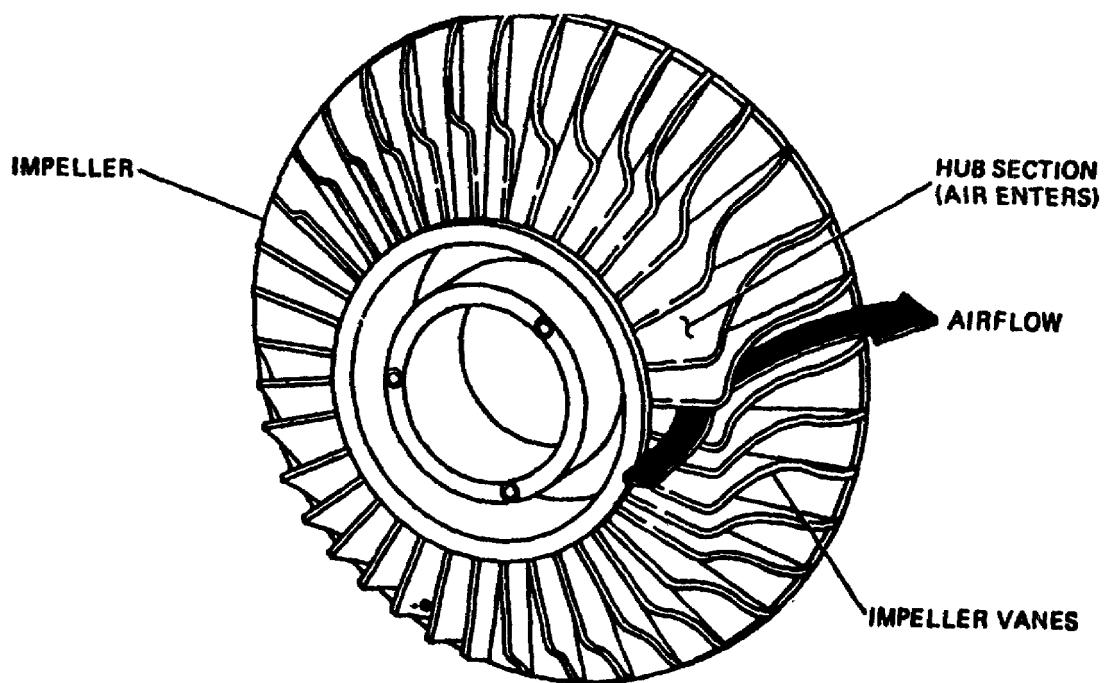

Figure 1-21. Centrifugal Compressor.
(9) Centrifugal Compressors. This type of compressor consists of two main parts: an impeller and a diffuser. Centrifugal compressors operate by taking in air near the hub of the impeller and accelerating it outward by centrifugal action. The impeller vanes guide the air toward the outer circumference of the compressor, building up the velocity by means of the high rotational speed of the impeller. Air leaves the impeller at high speed and flows through a set of diffuser vanes which decelerates the flow of air, converting high-velocity air to high-pressure energy. The diffuser vanes also serve to straighten airflow. A typical centrifugal compressor is shown in Figure 1-21.